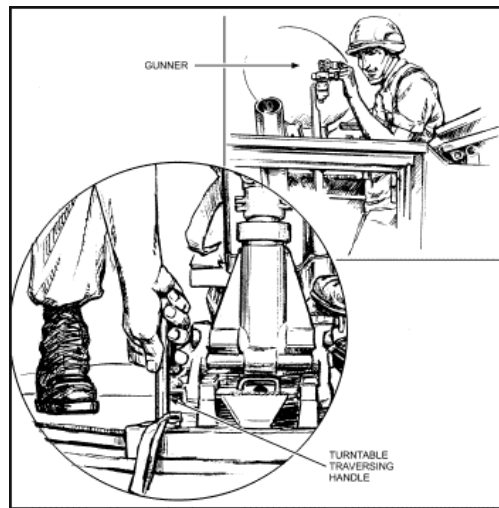

Figure 6-21. Gunner indexing the sight and assistant gunner unlocking the turntable traversing handle.
- (1) When a deflection greater than 75 mils is announced in the fire command, the assistant gunner prepares the turntable to be traversed before firing the round.
- (2) As soon as the deflection is announced, the gunner immediately indexes it on the sight (Figure 6-21). He ensures that the mortar is within two turns of center of traverse.